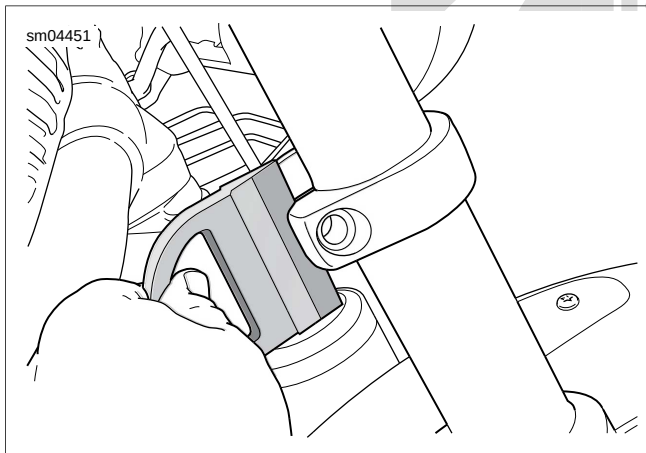

Figure 2-167. Insert Triple Tree Wedge (typical)
4. See Figure 2-167. Remove upper and lower fork bracket pinch bolts.